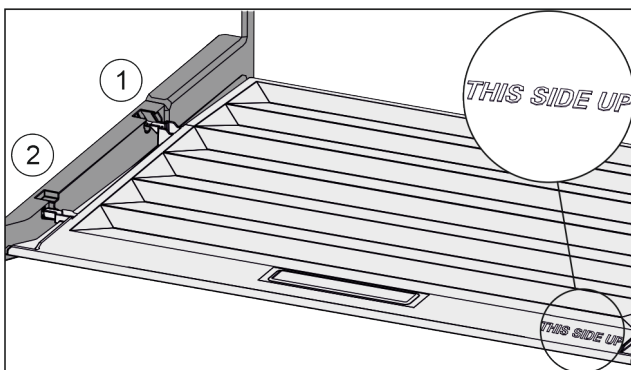

Fig. 64
- ▶ Insert the lip of the cover over the opening of the rear bracket Fig. 64 (1) and click into place Fig. 64 (2).